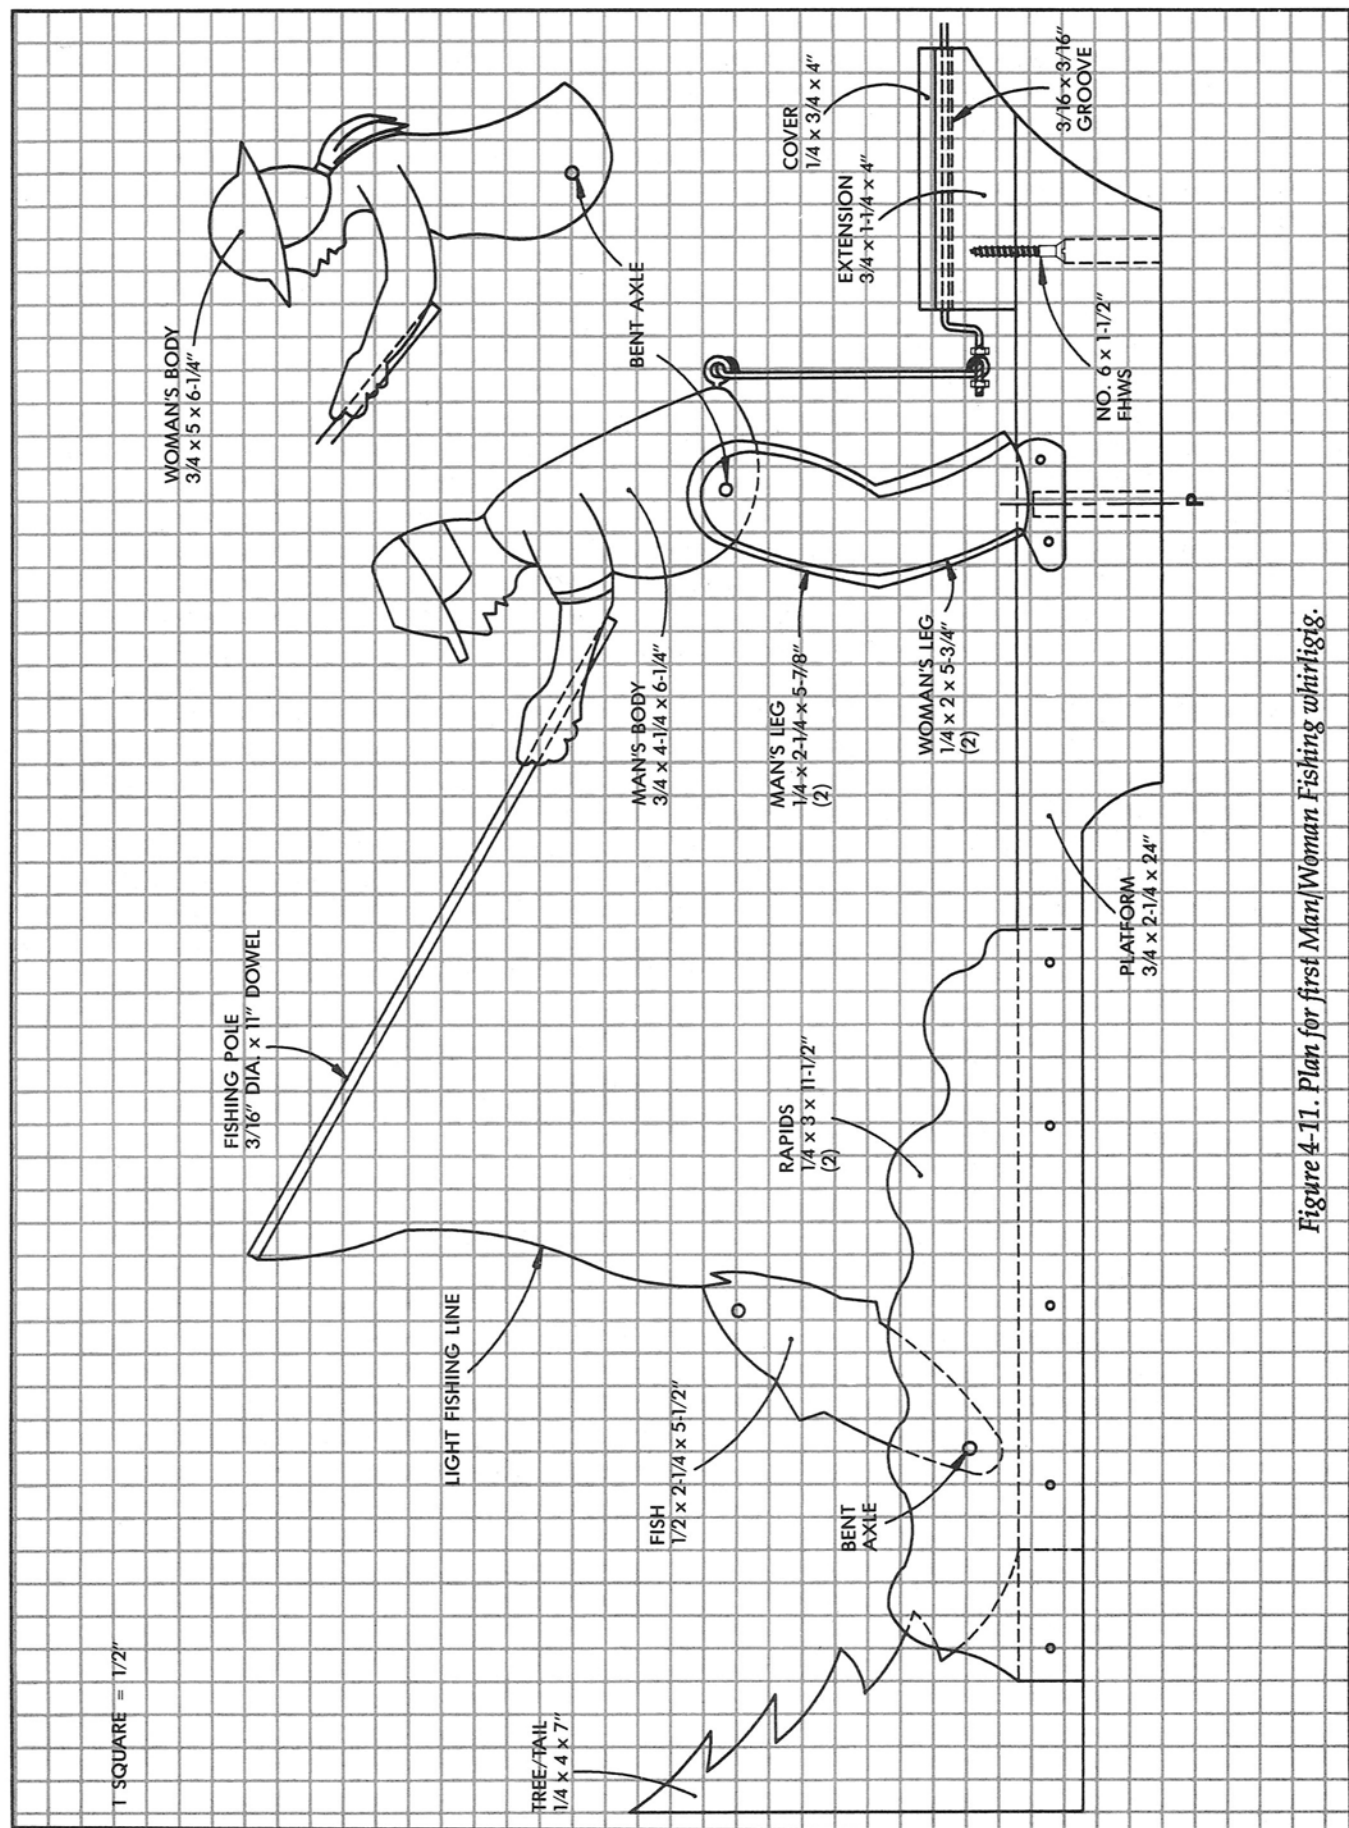

Figure 4-11. Plan for first Man/Woman Fishing whirligig.
1. Cut out a standard platform and mark the locations of the extension (3 in. from the front), the 1/4 in. tail slot (in 2 in. from the rear), and the rapids pieces (from 12-1/2 in. to the end of the platform). Draw a line 3/4 in. from the top of the platform beginning at 5 in. from the platform front on both sides. This is where the fisherman's shoes will be attached. Drill the pivot socket 6 in. from the front of the platform, line it with tubing, and cap it (Fig. 4-11).
5. Cut out the fisherman's legs, torso, and fishing rod. (Refer to Fig. 4-11 for woman.) Drill a hole for 1/8 in. tubing in the body's hip. The leg hip holes are drilled with a 3/32 in. bit. Attach the legs to the platform with the heels 5 in. from the front. Drill the hands for the 3/16 in. fishing pole. Drill a tiny hole (1/16 in. for the fishing line) 1/4 in. from the end of the pole and insert the pole so that it extends 8-3/4 in. from the hands. Place a screw eye in the bottom rear of the torso. Attach a temporary connecting rod from the screw eye to the drive shaft and check the motion of the fisherman.